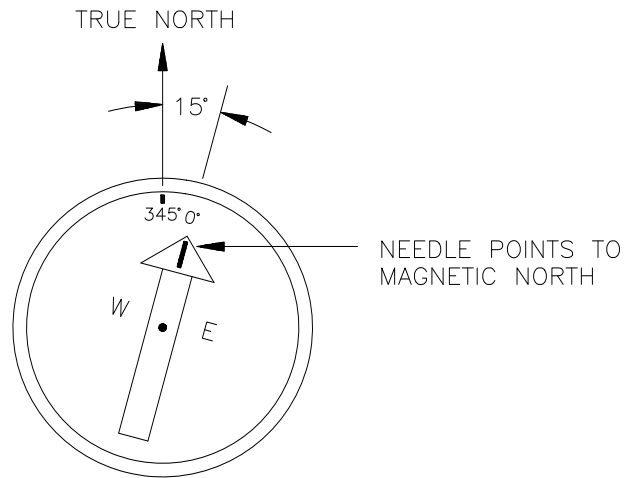

FIGURE A-2. A Declination Angle East of True North (Positive) is Subtracted from 360 (0) degrees to Find True North
Declination angles are always subtracted from the compass reading to find True North. A declination angle East of True North is reported as positive a value and is subtracted from 360 (0) degrees to find True North as shown Figure A-2. A declination angle West of True North is reported as a negative value and is also subtracted from 0 (360) degrees to find True North as shown in Figure A-3. Note that when a negative number is subtracted from a positive number, the resulting arithmetic operation is addition.